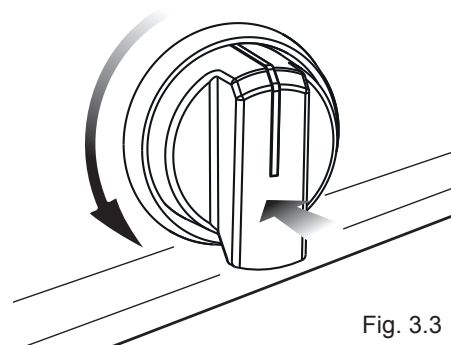

Fig. 3.3
2) Press the oven control knob right down and turn counter-clockwise (fig. 3.3) to max position **550**.